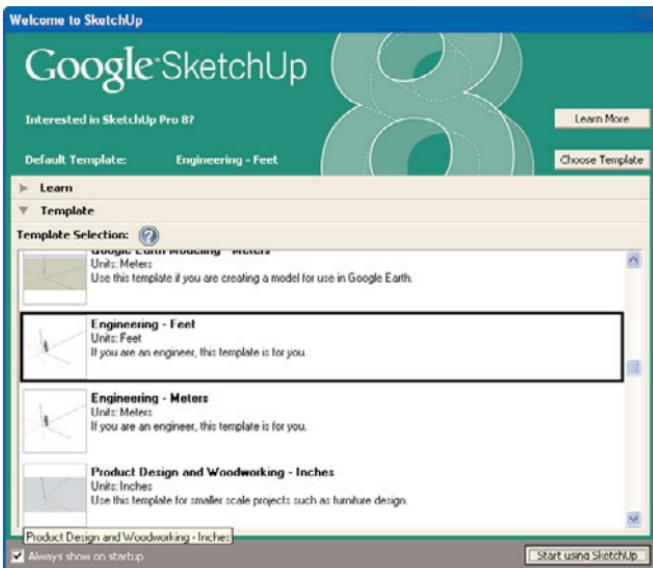

FIGURE 2.13 Selecting the Engineering–Feet template.
2. Click the **Engineering–Feet** template to select it (as shown in Figure 2.13).